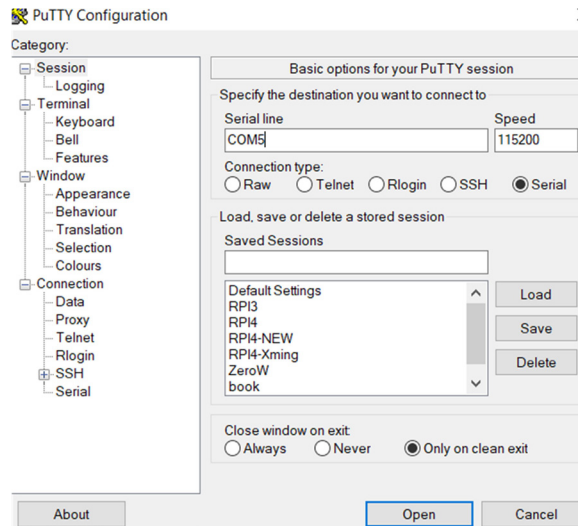

Figure 3.7 Configure Putty
- Run a terminal emulation program on your PC. For example, run Putty and set the **Connection type** to Serial, **Serial line** to COM5, and **Speed** to 115200 (see Figure 3.7)